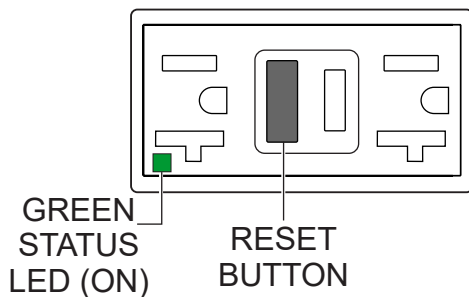

Figure 79. GFCI Receptacle (ON/Restore)
5. Press the **RESET button** (Figure 79) to restore power to the GFCI receptacle and verify that the status LED is **ON (GREEN)**.